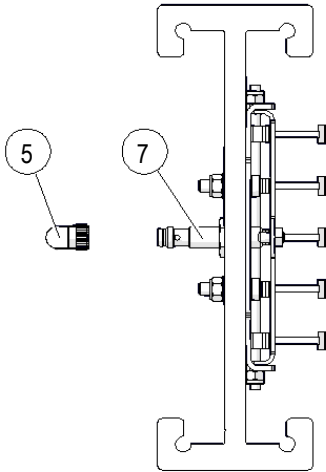

Fig. 10: Mount connecting cable
- Attach the connecting cable (item 5) to the inductive sensor (item 7) (see Fig. 10). The socket of the connecting cable can be rotated to the desired position in 15°-steps.